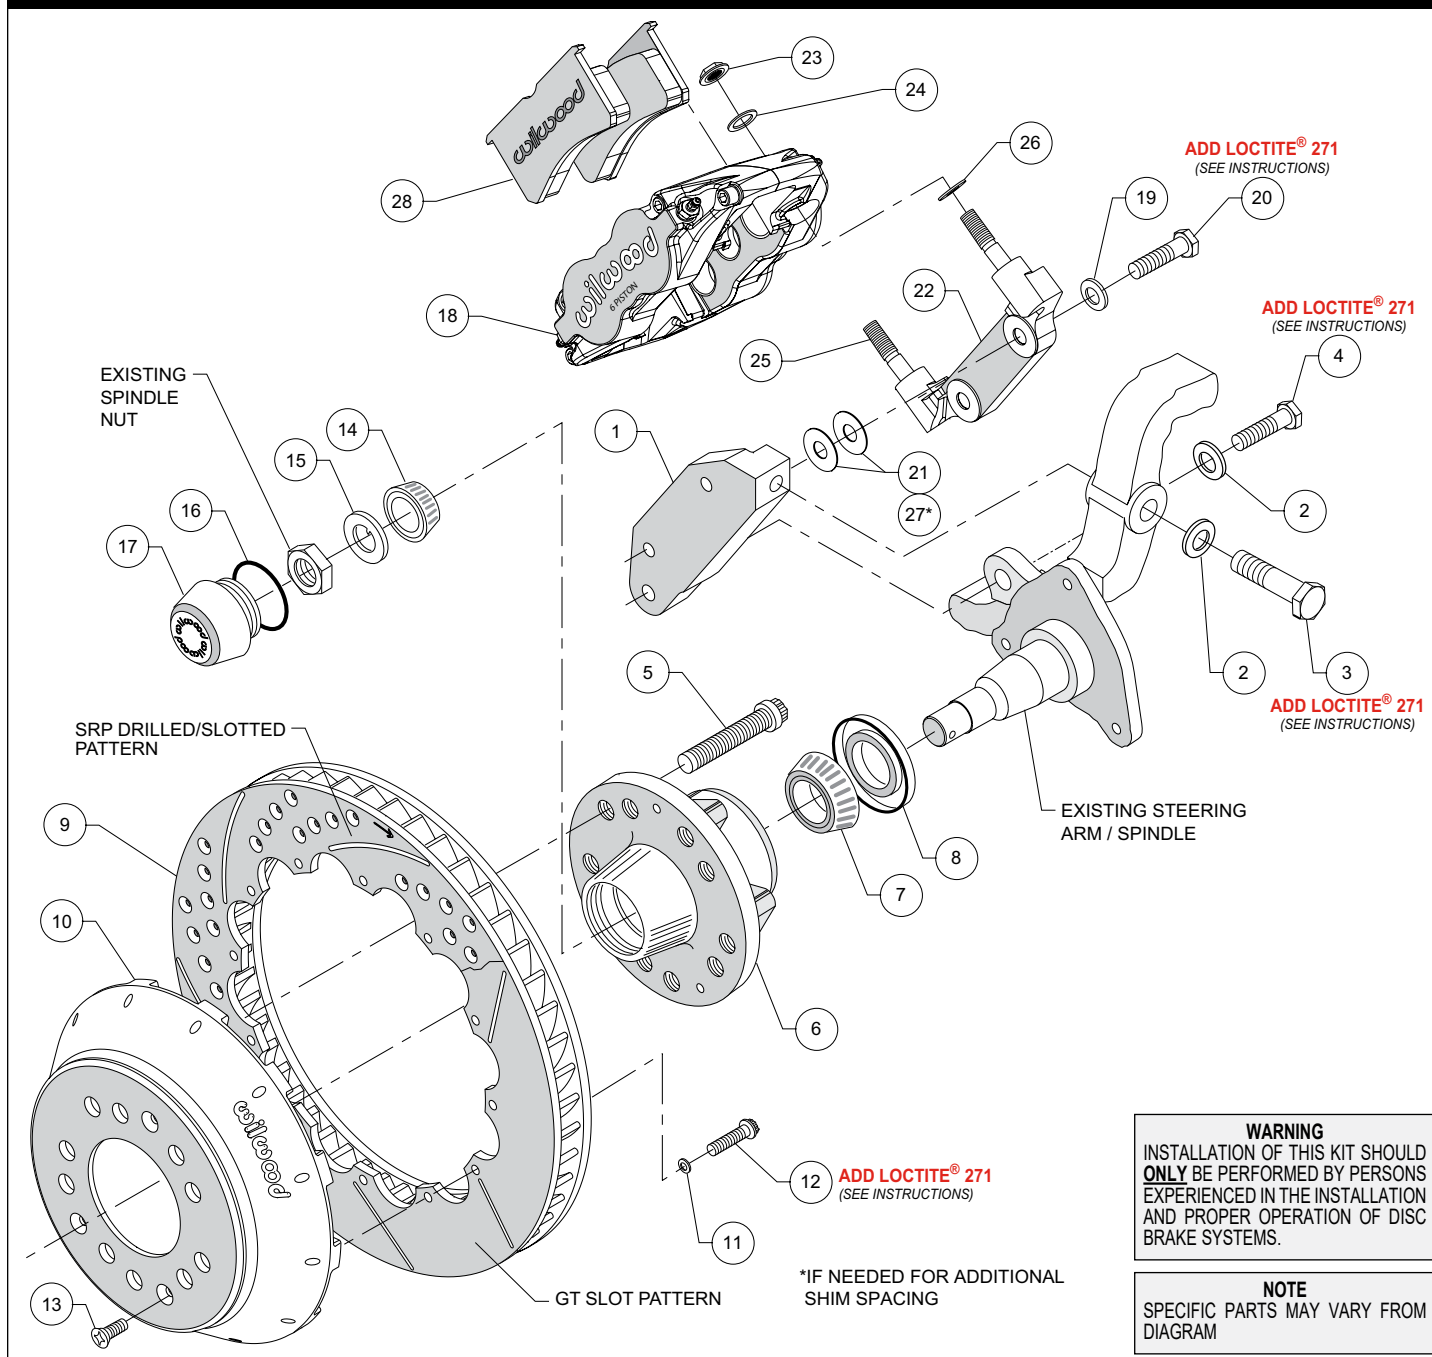

Figure 1. Typical Installation Configuration
- Mount the radial mount caliper bracket (22) to the first "flat" caliper mounting bracket (1) from the far side using washers (19) and bolts (20), as shown in Figure 1. Initially place two .030 thick shims (21) between the two brackets. Temporarily tighten the bolts.
•**NOTE:** This kit contains distinct right and left hand calipers that must be mounted in a specific direction, as described below. Initially place one .035" thick shim (26) on each stud as shown in Figure 1. Mount the caliper (18) onto the bracket (1) using lock nuts (23) and washers (24), Figure 1. Ensure that the caliper is mounted so that the largest pistons are at the rotor exit end of the caliper, in relation to the direction of rotor rotation. Temporarily tighten the lock nuts and view the rotor through the top opening of the caliper. The rotor should be centered in the caliper. If not, adjust by adding or subtracting .030" shims (21), or add .015" thick shims (27), as necessary between the radial mount bracket (22) and the flat bracket (1). Always use the same amount of shims on each of the two mounting bolts. Once the caliper alignment is correct, remove the bracket mounting bolts (20) one at a time, apply red *Loctite*® 271 to the threads, and torque to 42 ft-lb.